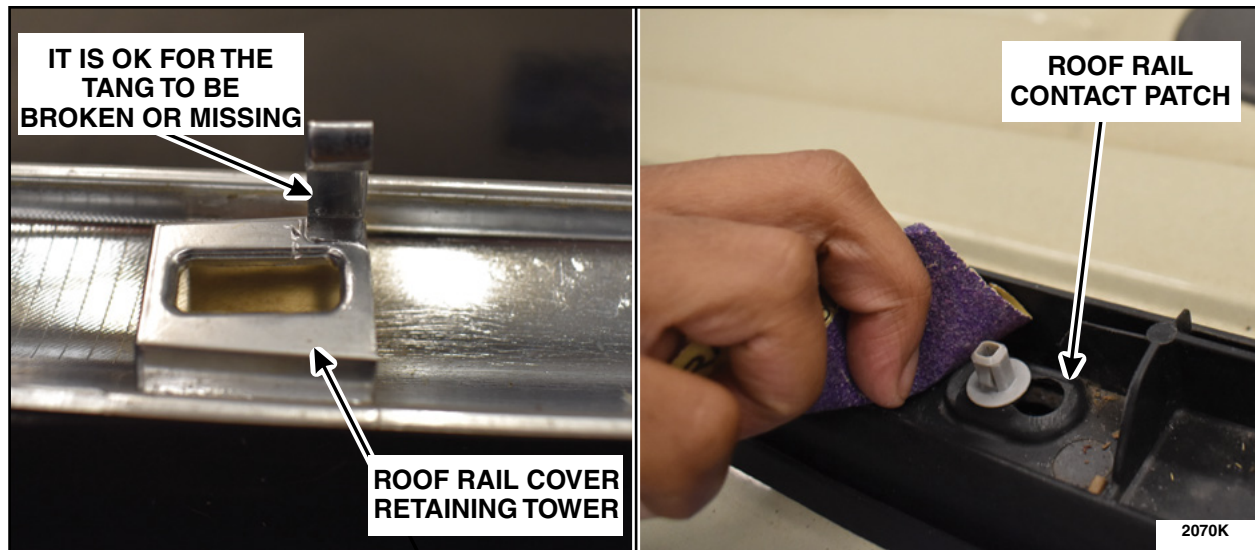

FIGURE 13
3. Scuff the surfaces of the roof rail cover retaining tower and the roof rail contact patch with 60 grit sand paper or coarser, then clean with alcohol. See Figure 13.